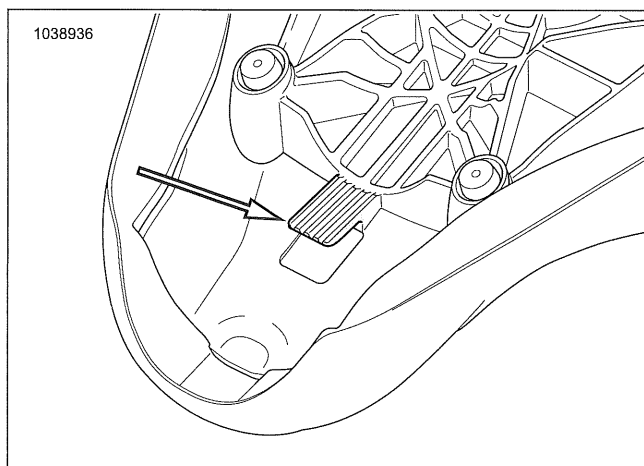

Figure 3-143. Seat Tongue (Typical)
- b. Install seat (5) rearward through the grab strap.
- c. See Figure 3-143 and . Engage seat tongue in frame bracket.
- a. Install grab strap (4) if removed.
- b. See Figure 3-143 and . Engage seat tongue in frame bracket.
- a. See Figure 3-143 and . Engage seat tongue in frame bracket.